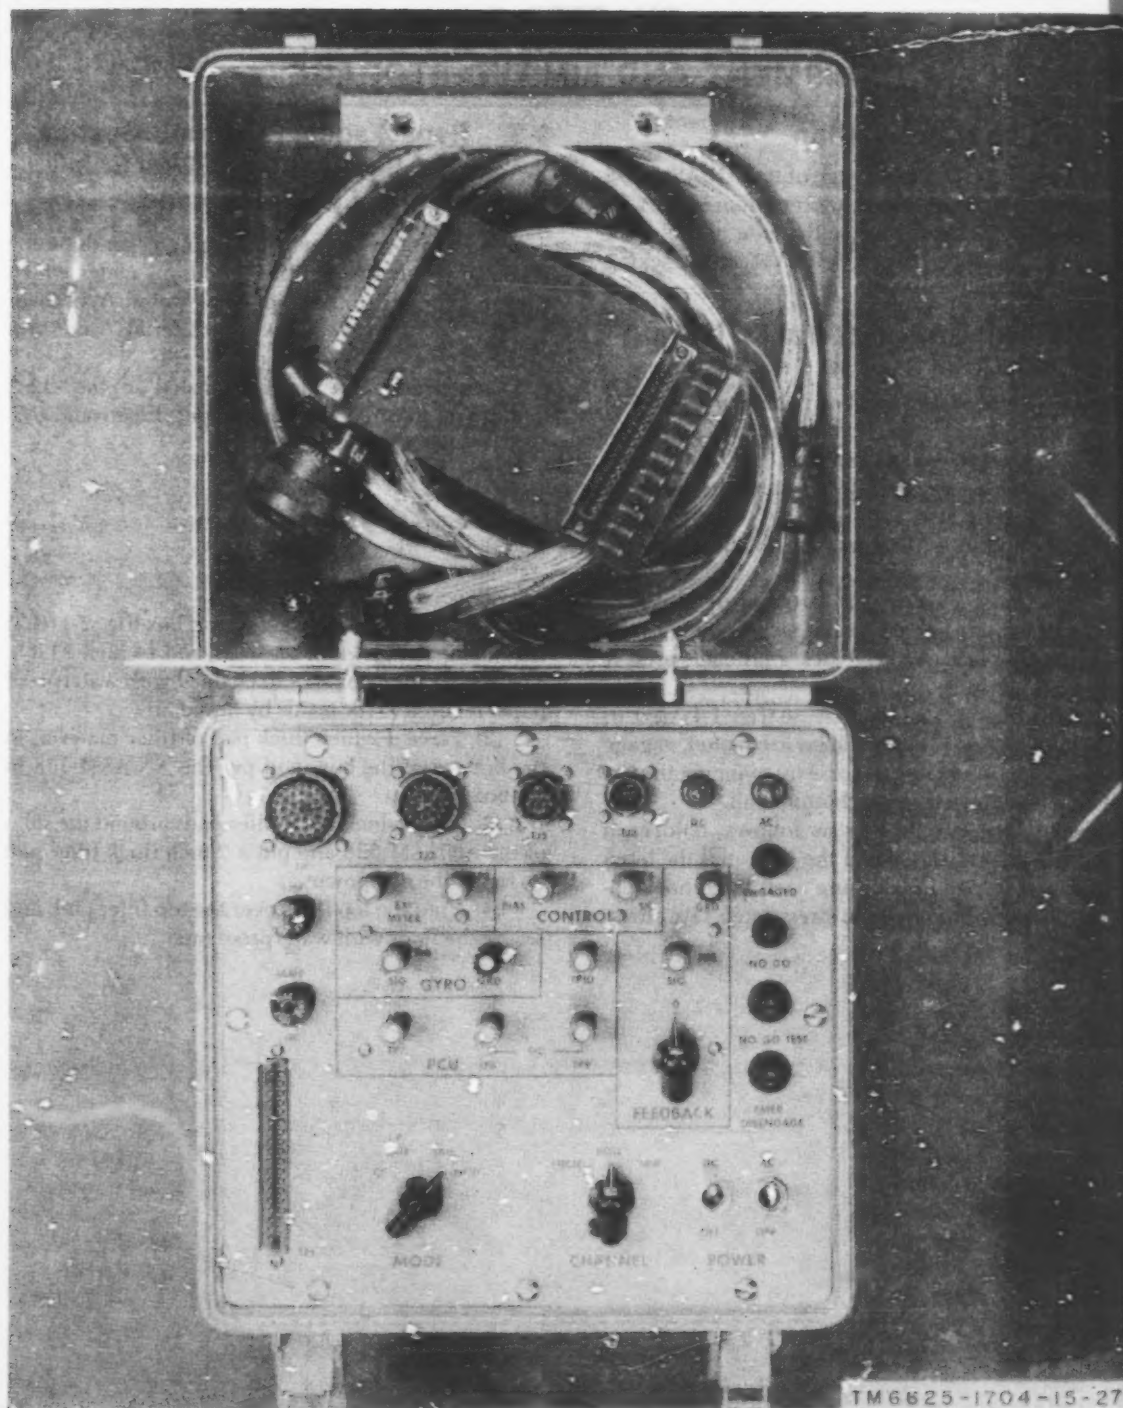

Figure 9-1. Electronic System Test Set AN/ASM-338
a. Stow the accessories (fig. 1-2) in the accessory compartment (fig. 9-1).